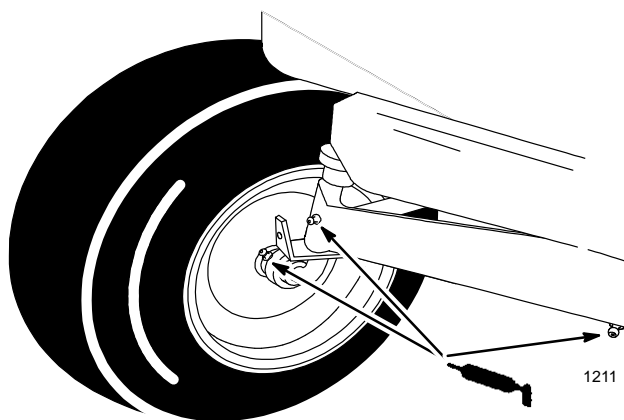

Figure 23
1. Lubricate the front wheels and spindles until grease begins to ooze out of the bearings (Fig. 23).
2. Lubricate the front axle pivot (Fig. 23).